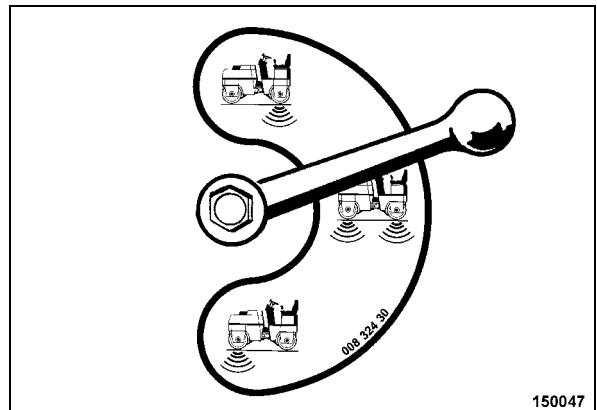

Fig. 56
- Pre-select the desired drum or drums with the ball valve (Fig. 56).